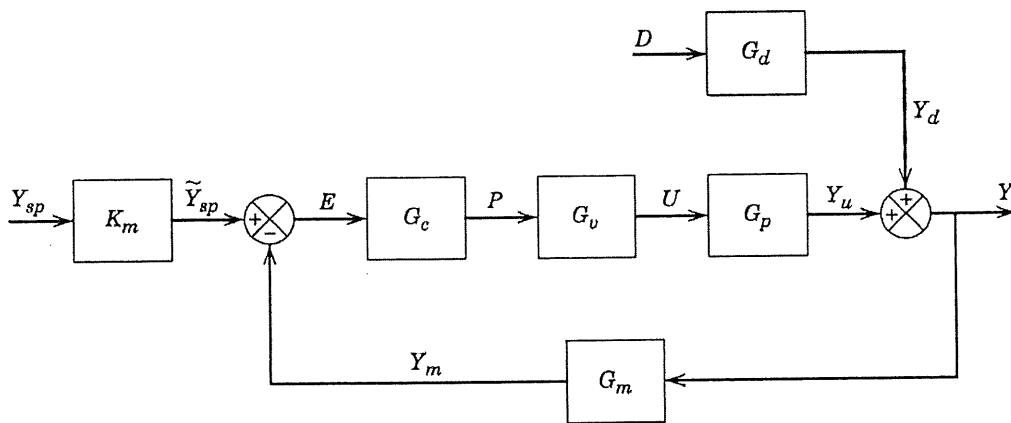

Figure 2
- b) Figure 2 shows the standard notations contains in quantitative block diagram of feedback control for stirred-tank blending system. Analyse and define the notations:  $Y, U, D, P, E, Y_m, Y_{sp}, \tilde{Y}_{sp}, Y_u, Y_d$ . (10 marks)